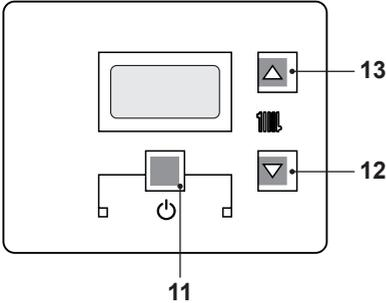
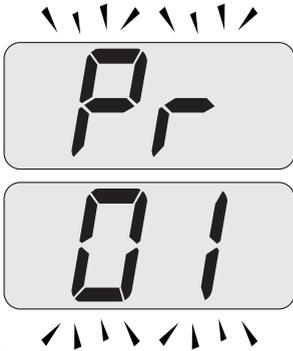
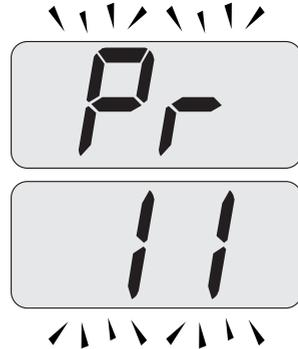
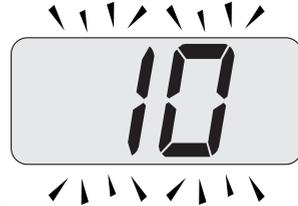

Fig. 7.24
Fig. 7.25
Fig. 7.26
Fig. 7.27
keys 11 - 12 - 13 (Fig. 7.24) for 10 seconds at the same time until the letters **Pr** that alternate with code **01** are displayed on the LCD display, indicating that "parameter 01" (Fig. 7.25) has been activated.
• Scroll the various parameters using keys 12 or 13 until the letters **Pr** that alternate with code **11** are displayed on the LCD display, indicating that "parameter 11" (Fig. 7.26) has been activated.
• Press keys 11 and 13 (Fig. 7.24) at the same time until the value of parameter 11 (10=60 seconds) (Fig. 7.27) is displayed on the LCD display .
- By pressing key 11 (Fig. 7.24) confirmation of the inserted value is obtained.
- Press keys 11 and 12 (Fig. 7.24) at the same time to exit without changing the value (return to the parameters list Fig. 7.26)
- Press keys 11 - 12 - 13 (Fig. 7.24) at the same time for 10 seconds to exit the "programming mode".